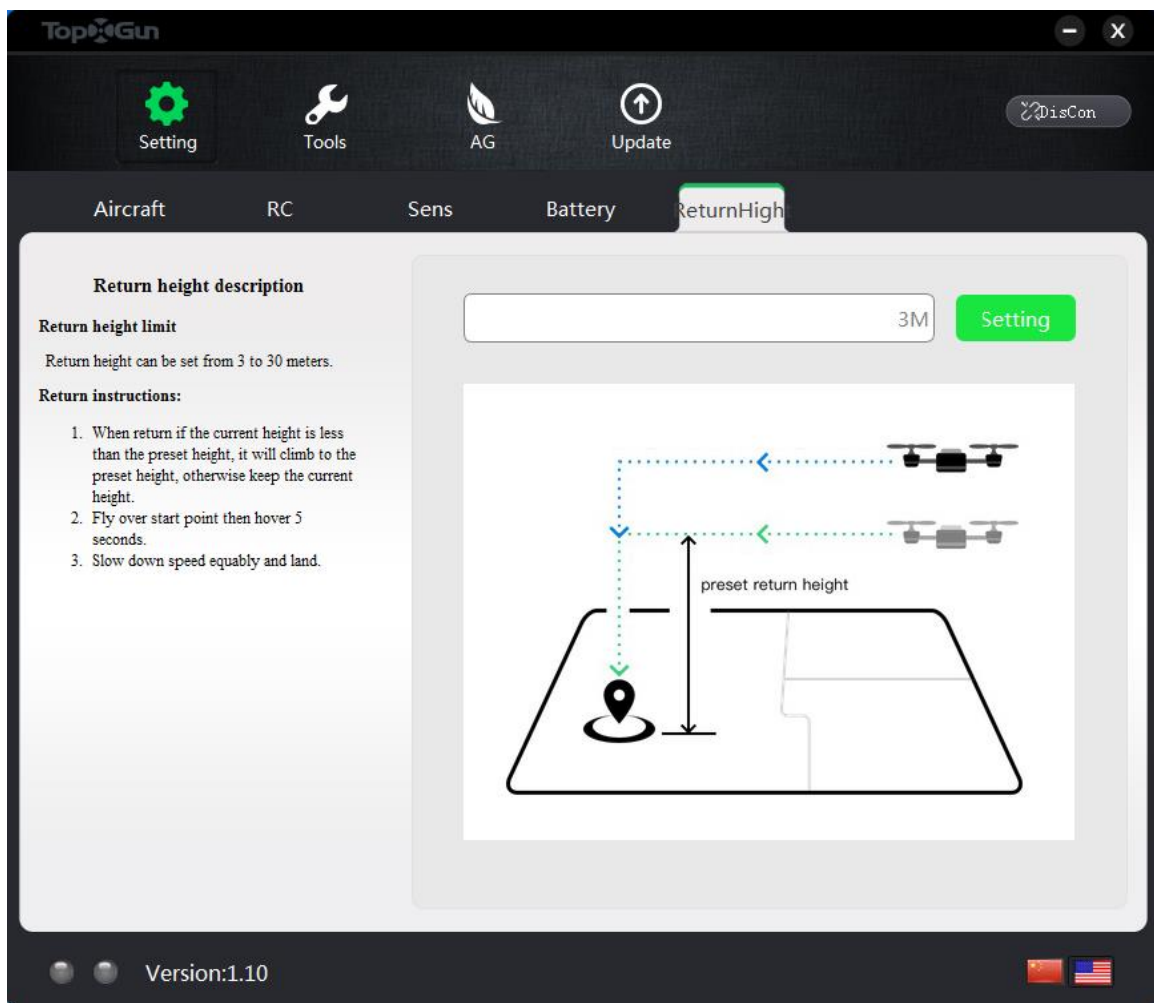

Figure 1-8 Return height setting
Step6. Set the return height, as shown in figure 1-8.